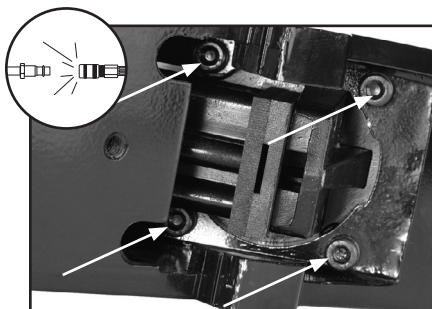

Figure 8. Removing the base.
3. Remove the cap screws shown in **Figure 8** that secure the base.